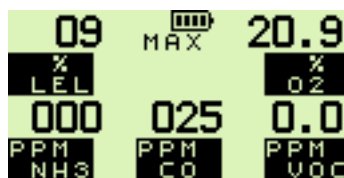

Fig. 2.13 Maximum Gas Values
The example shown in Fig. 2.13 illustrates the maximum gas values stored in a five gas instrument: LEL, Oxygen (O₂), Volatile Organic Compounds (VOC), Carbon Monoxide (CO) and Ammonia.